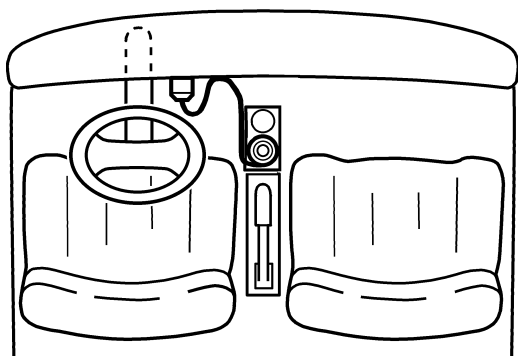

Figure 2.17: VDR Installed in Vehicle (Suggested Setup)
- 3 Choose a routing path for the cable with attachment points for securing the cable along its length and place the VDR tool in the vehicle cup holder (or another suitable location). See Figure 2.17.